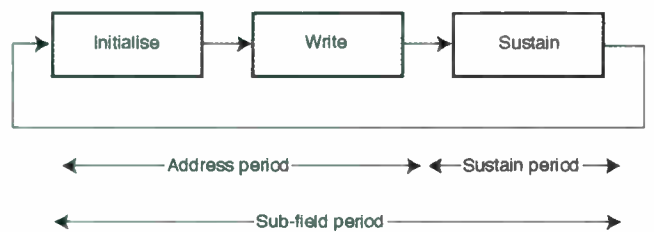

Fig. 4: The three-phase pixel cell drive cycle.
There are three stages to driving a plasma cell, see Fig. 4: (1) set or initialise (also known as erase); (2) address or write; and (3) discharge or sustain (also known as display).